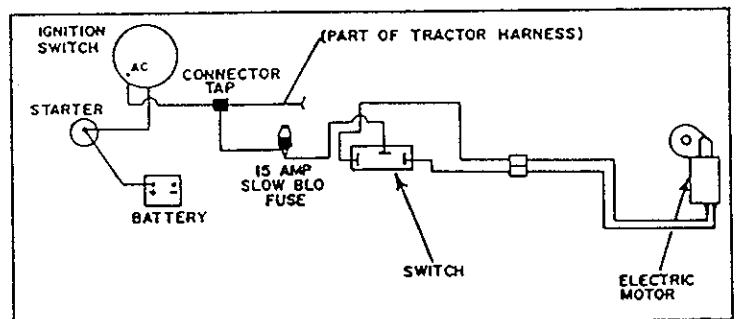

FIGURE 9
- f) Solder one 18" wire to the side terminal of fuse holder and the other 18" wire to the bottom terminal (see figure 9).
- h) Connect one wire from fuse holder to middle terminal of control switch, the other 18" wire to the tractor ignition switch (see figure 9).